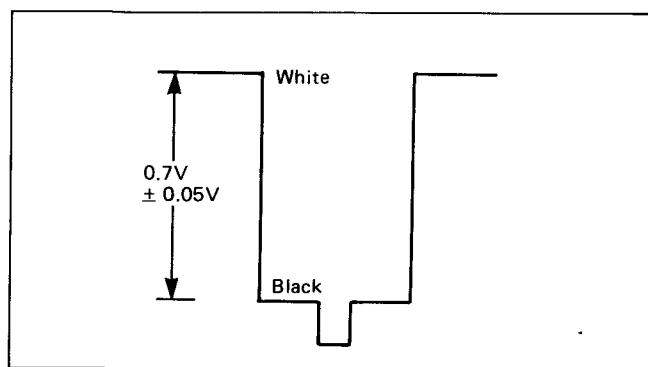

Fig. 20
- Adjust Sub Contrast control VR (R353) to achieve  $0.7V \pm 0.05V$  on the oscilloscope as shown in Fig. 20.